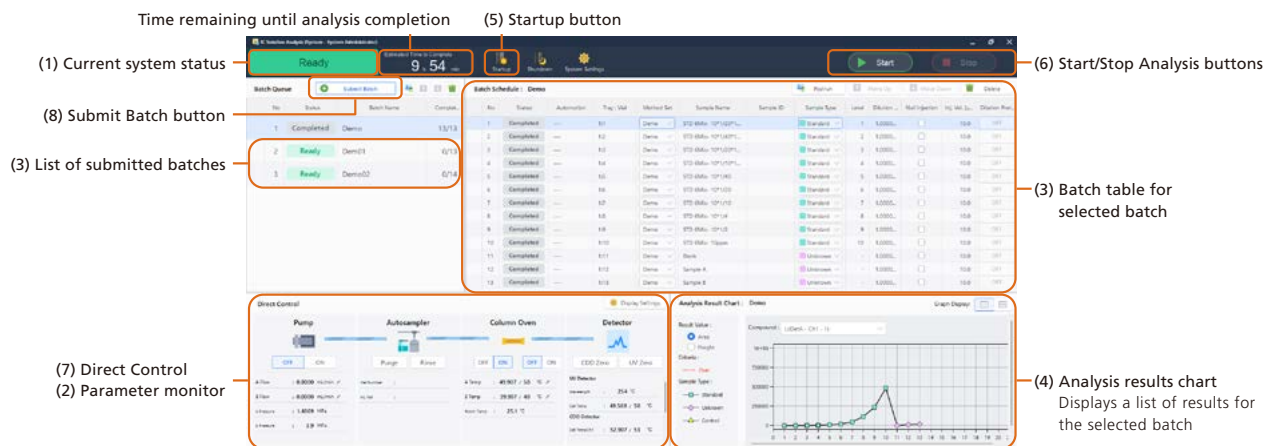

Figure 2: IC Solution Main Window
Figure 2 shows the main window of IC Solution. This main window displays: (1) system status, (2) analysis parameters, (3) batch submission status, and (4) analysis results in a simplified chart format. Clicking the (5) Startup button or the (6) Start Analysis button starts each operation. The solvent delivery pump, column oven, and other components can be controlled individually from the (7) Direct Control pane. Clicking the (8) Submit Batch button opens a separate window to add sample batches to an analysis. This window can be used to add additional batches to the end of a batch queue, but can also add batches at any position in the batch queue during an ongoing analysis. Also, clicking the Analysis Application Startup button launches a dedicated analysis application for processing data.